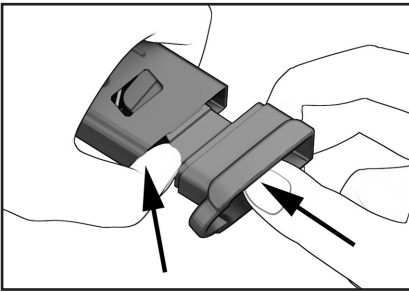

Figure 45
5. On 10-round magazines, push the floorplate up onto the base of the magazine housing until the locking tabs engage in the sides of the housing. (Figure 45)